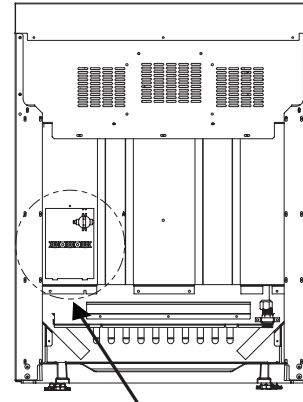
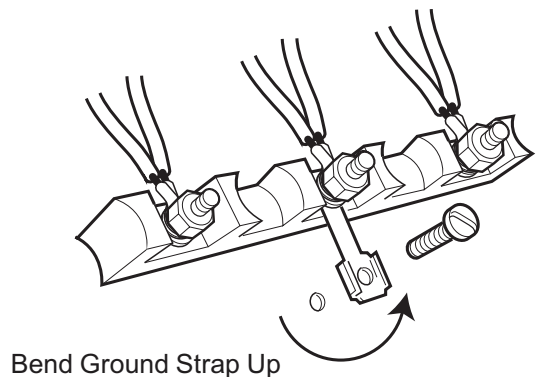

Figure 10: Location of Junction Box on 30" and 36" Ranges
Figure 14: Ground Strap
- **PERMANENT CONNECTION (HARD WIRING)** — Units may be hard wired to the power supply. The installer must provide approved flexible aluminum conduit, 3/4" trade size, maximum 6 feet long. Locate the junction box on the rear of the unit and remove cover. Refer to Figure 10. Remove the ground strap retaining screw and bend the ground strap up. Refer to Figure 14. The conduit must be installed to the junction box using an approved conduit connector. Wiring for the unit is to be brought into the junction box through the conduit. The ends of the wiring must have 1/4" faston closed-loop lugs attached, preferably soldered in place. Make the connections to the terminal
2. Remove ground strap screw and bend the strap up as shown in Figure 14.